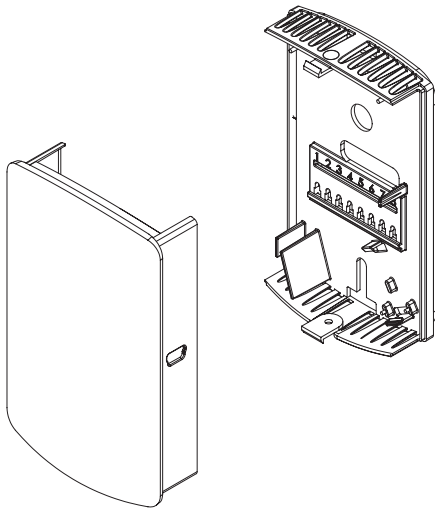

Figure 1: Removal of Cover from Back Plate
1. Push tab on top and bottom of cover and lift cover from back plate (See Figure 1).